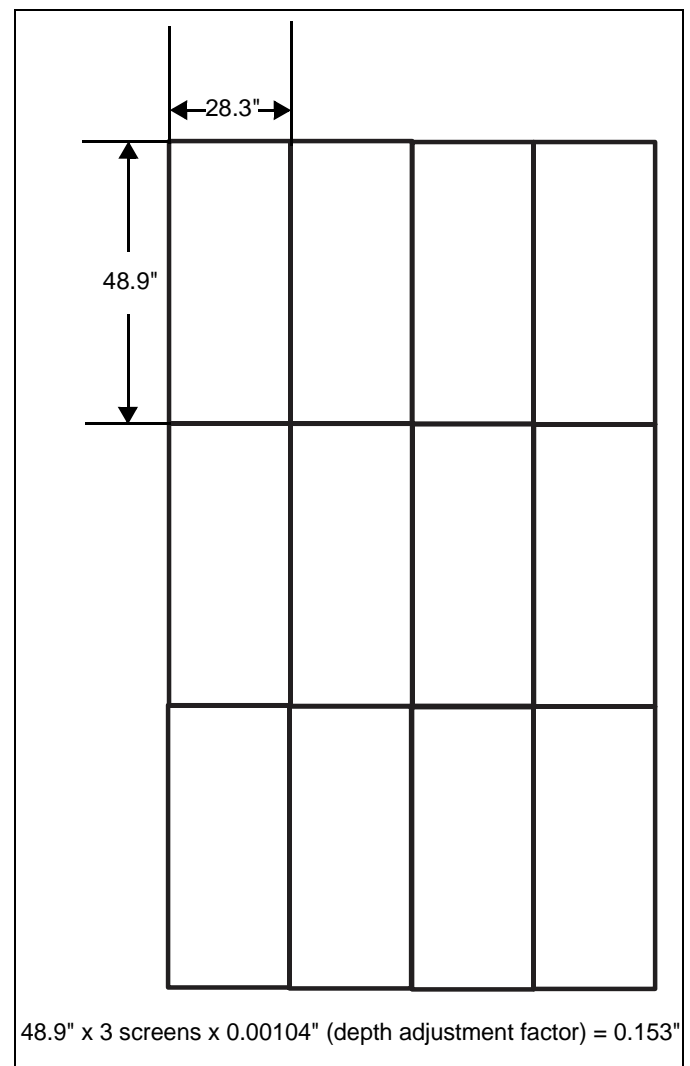

Figure 6
**EXAMPLE:** With a 4x3 Portrait video wall where the height is 48.9" x 3 and the width is 28.3" x 4. (See Figure 6):